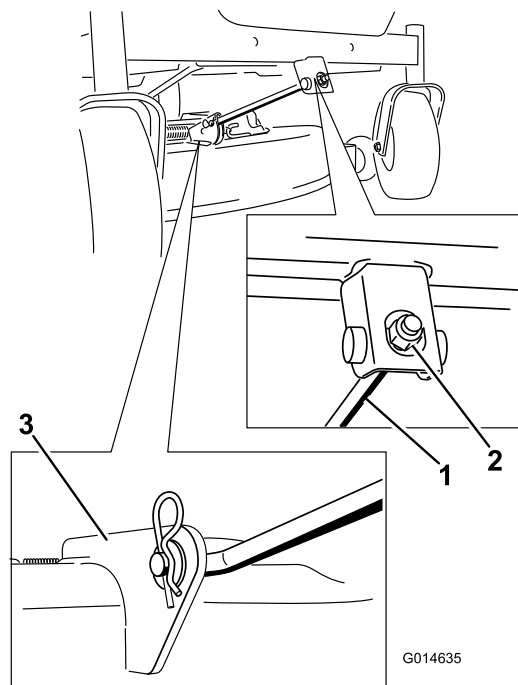

Figure 76
5. Remove the hairpin cotter from the front support rod, and remove the rod from the deck bracket (Figure 76).
- Attach the front support rod to the mower deck with the clevis pin and hairpin cotter (Figure 76).